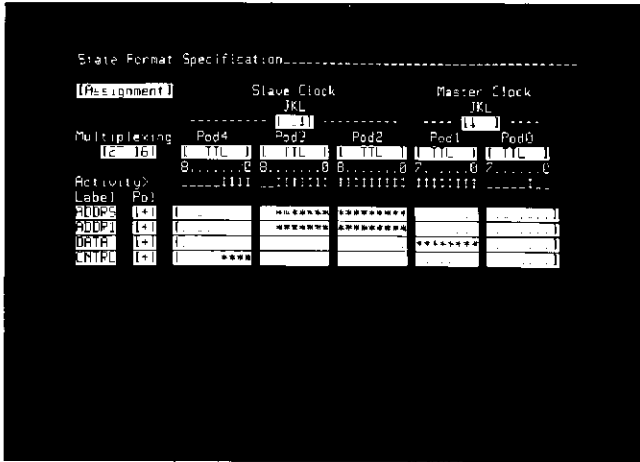

Figure 3-22. State Assignment Format Specification With Two Labels For The Address Bits
- 5 In the label line just created, type in ADDR1, and enter asterisks to activate each probe line that is active for the ADDR5 label. This creates a label called ADDR1 that is identical to the ADDR5 label. See figure 3-22.